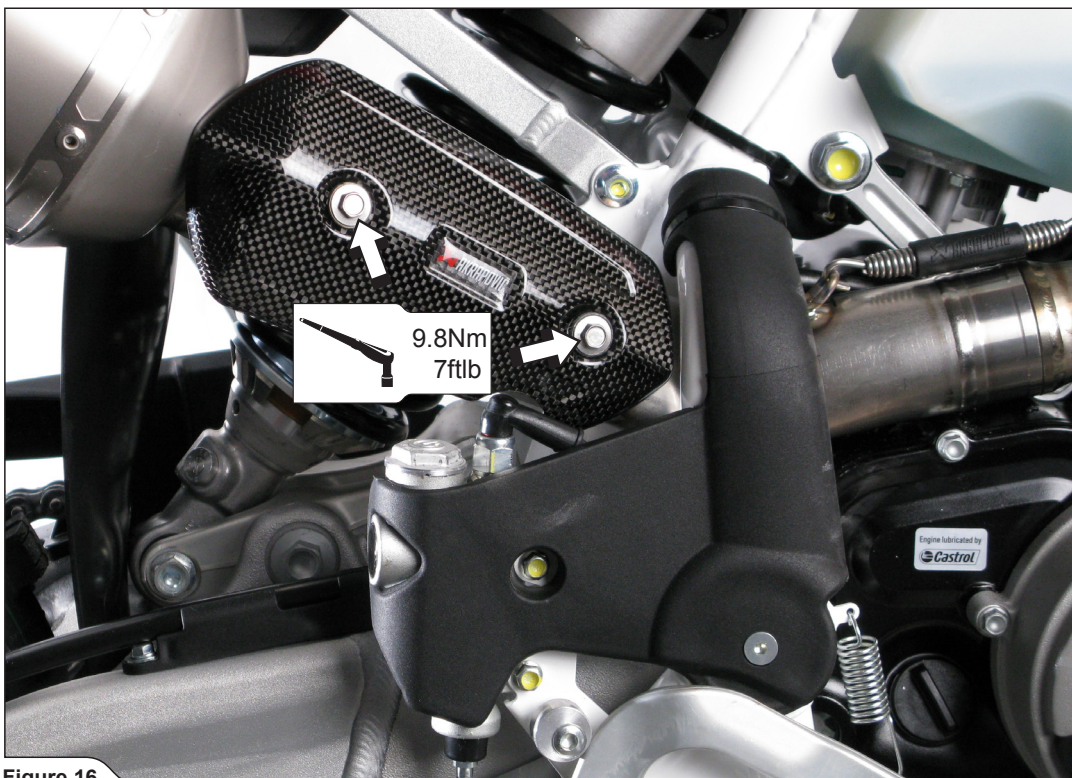

Figure 16
11. Tighten the heatshield onto the link pipe (Figure 16).